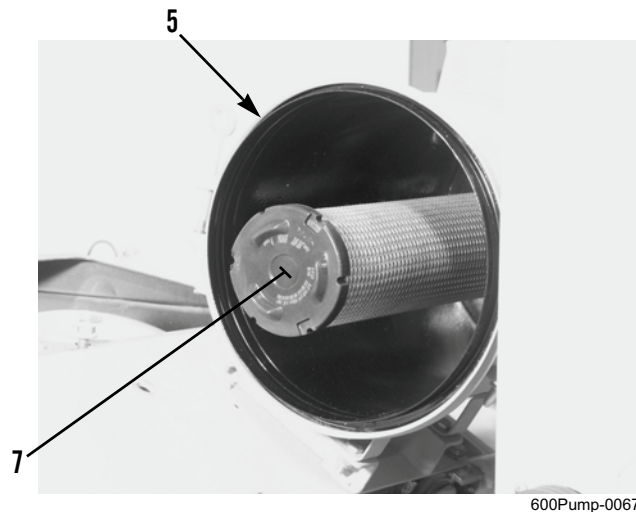

Figure 3. Safety Element.
9. To replace safety element (Figure 3, Item 7), remove safety element from air cleaner housing (Figure 3, Item 5) and discard.
10. Position new safety element (Figure 3, Item 7) squarely inside air cleaner housing (Figure 3, Item 5). Ensure it is firmly seated.
11. Position primary air cleaner element (Figure 3, Item 7) squarely inside air cleaner housing (Figure 3, Item 5) until firmly seated.